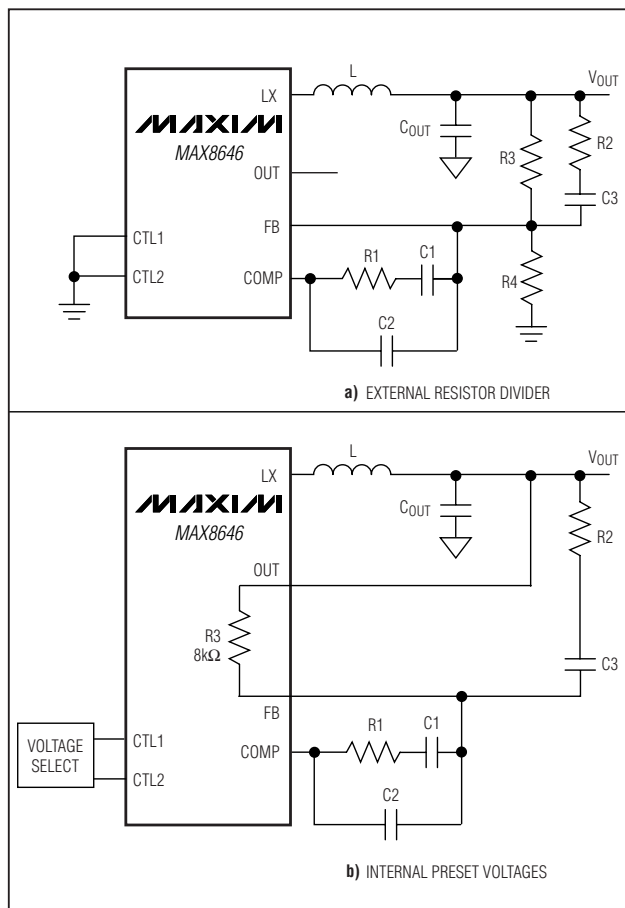

Figure 3. Type III Compensation Network
The UVLO circuitry inhibits switching when  $V_{DD}$  is below 2V (typ). Once  $V_{DD}$  rises above 2V (typ), UVLO clears and the soft-start function activates. A 100mV hysteresis is built in for glitch immunity. Figure 3 is the type III compensation network.
The high switching frequency range of the MAX8646 allows the use of ceramic output capacitors. Since the ESR of ceramic capacitors is typically very low, the frequency of the associated transfer function zero is higher than the unity-gain crossover frequency,  $f_C$ , and the zero cannot be used to compensate for the double pole created by the output filtering inductor and capacitor. The double pole produces a gain drop of 40dB/decade and a phase shift of 180°/decade. The error amplifier must compensate for this gain drop and phase shift to achieve a stable high-bandwidth closed-loop system. Therefore, use type III compensation as shown in Figures 3 and 4. Type III compensation possesses three poles and two zeros with the first pole,  $f_{P1\_EA}$ , located at zero frequency (DC). Locations of other poles and zeros of the type III compensation are given by: